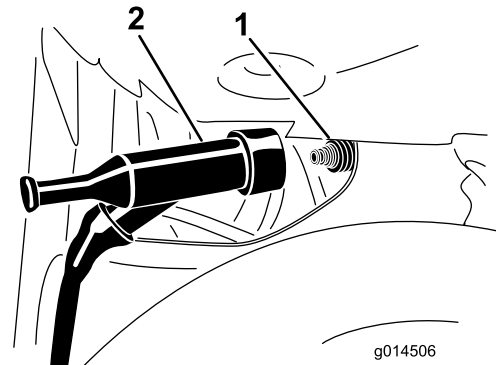

Figure 44
- Pull the spark plug wire off the terminal of the spark plug (Figure 44).
3. Pull the spark plug wire off the terminal of the spark plug (Figure 44).